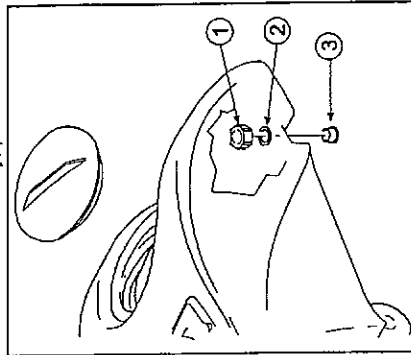

Fig. 11
4. remove the male cap (fig. 11, ref. 3), the ring (fig. 11, ref. 2) and the blocking nut (fig. 11, ref. 1) from the recovery tank: these three elements are located on the front right side of the tank (see fig. 11);